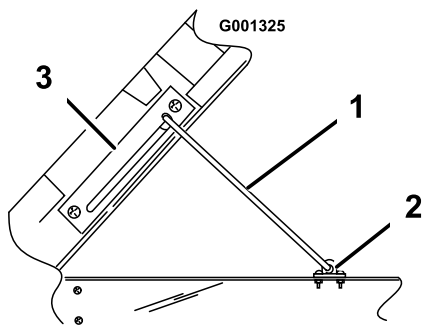

Figure 10
14. Remove the screws and clip securing the prop rod to the frame rail (Figure 10).
15. Remove the screws securing the prop rod bracket to the underside of the box. Remove the retainer securing the rod to the bracket and remove the rod (Figure 10). Retain the prop rod components for future use.